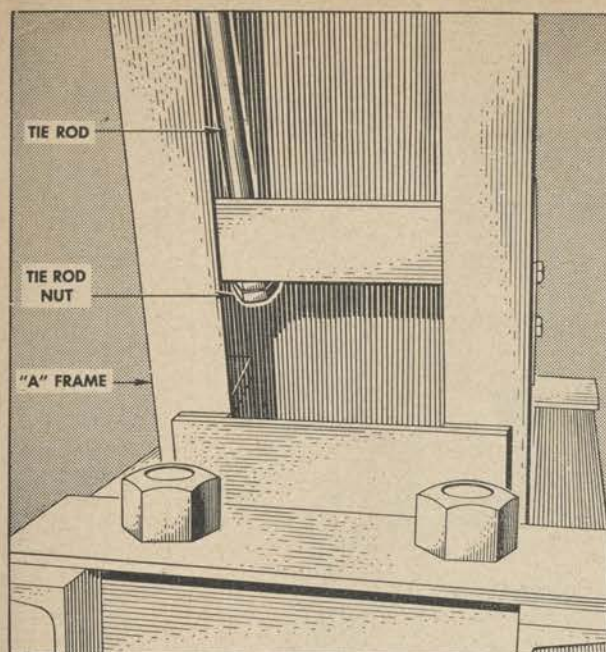

Figure 37. Detail of tie rod, piece No. 10.
(3) *Assembling tie rods.* Complete the assembly by installing and tightening the two tie rods, piece No. 10. Make the tie rods fast at their lower end to cross members in the A-frame legs. (See fig. 37.) Upon completing the assembly, remove the temporary guy line.